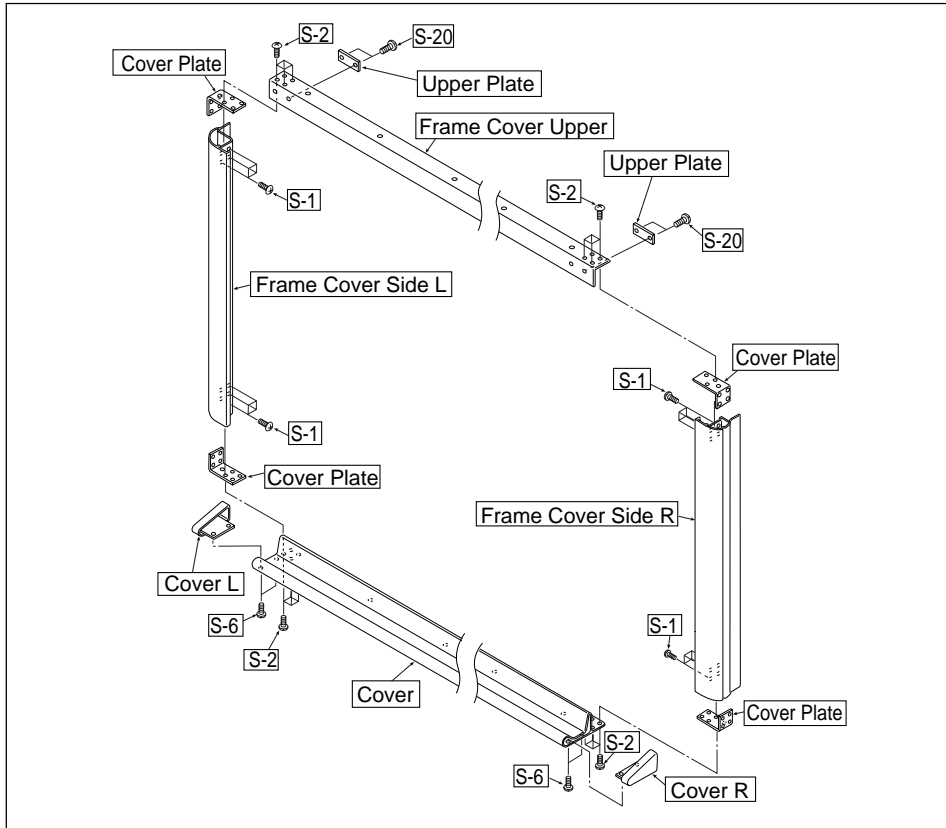

Fig. 9
6) Disassemble the Frame Cover Section. (See Fig. 9.)
Remove the "S-1", "S-2", "S-6" and "S-11" screws shown in Fig. 9 and disassemble the Frame Cover.